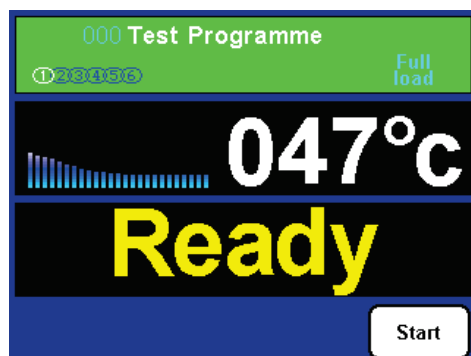

Fig 4
7. When oven is ready, the following screen will appear (fig 4). Load product and press start (4)